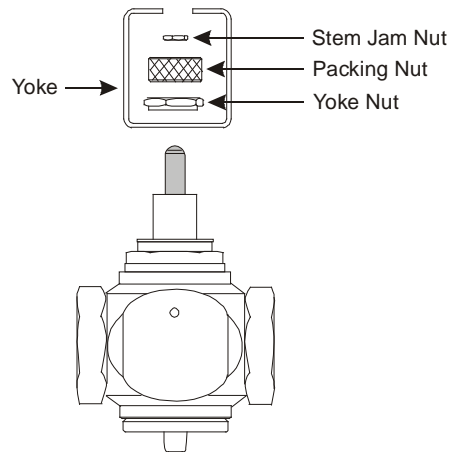

Figure 15: Assembling the Yoke
5. Secure the yoke to the valve bonnet using the yoke nut included with the actuator mounting kit. Position the centering boss of the yoke nut so that it faces the valve (as illustrated in Figure 15). **Hand tighten only.**